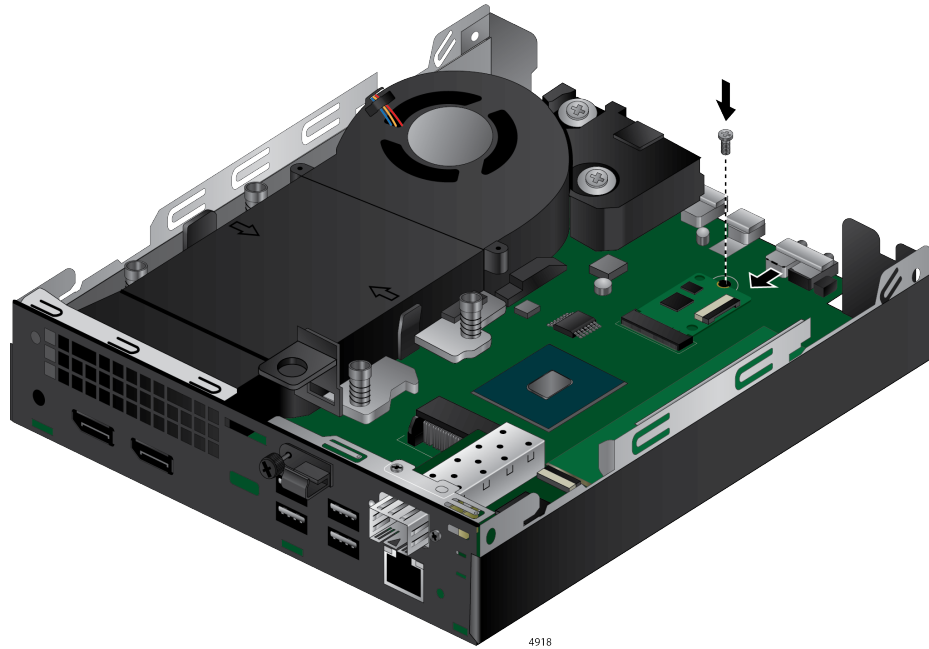

Figure 13. Securing the SFP Board to the Chassis
14. Insert the controller board into the 2230 M.2 slot on the system motherboard and secure with the M.2 screw. See Figure 13.